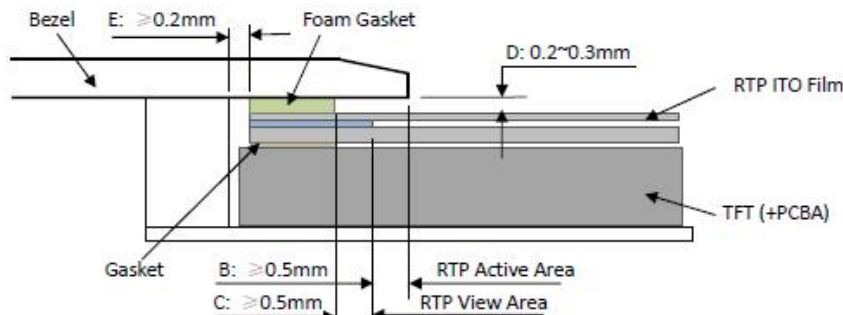

Figure 4
- It should bezel touching the RTP Active Area (A.A.) to prevent abnormal touch.It should left gab D=0.2~0.3mm in between. (Figure 4)
- Outer bezel design should take care about the area outside the A.A. Those areas contain circuit wires which is having different thickness. Touching those areas could de-form the ITO film. As a result bezel the ITO film be damaged and shorten its lifetime. It is suggested to protect those areas with gasket (between the bezel and RTP).The suggested figures are $B \geq 0.50\text{mm}$; $C \geq 0.50\text{mm}$. (Figure 4)
- The bezel side wall should keep space E= 0.2 ~ 0.3mm from the RTP. (Figure 4)
- 为避免面框直接压在动作区(A. A.)上造成误动作，面框与电阻触摸屏(RTP)之间应留有一定的空隙 $D=0.2 \sim 0.3\text{mm}$ 之间。(附图 4)
- 设计面框时，要注意用面框保护触摸屏四周的非保证操作区域，因为布线区域在此处形成一台阶，在此区域附近操作时 ITO Film 变形较大，容易导致 ITO 损坏而降低寿命。为保护 RTP 和避免误操作，在 RTP 与面框之间垫缓冲物(Gasket)，我们建议设计面框应覆盖动作区的边缘，面框边缘到 V. A. 区的距离 $B \geq 0.50\text{mm}$ ；垫圈内边缘到 V. A. 区的距离 $C \geq 0.50\text{mm}$ 。（附图 4）
- 在设计面框与 RTP 组装时，应考虑到面框内侧与 RTP 外侧的间距 $E \geq 0.2\text{mm}$ 。（附图 4）